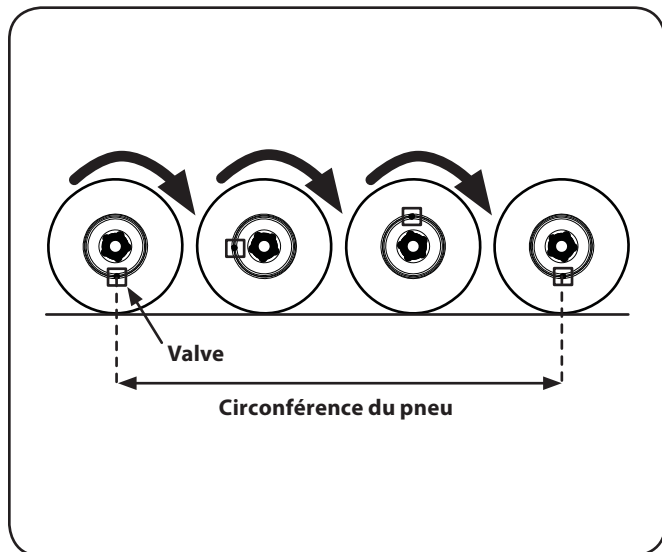

Figure 5-14
1. To measure the new tire circumference, mark the ground with the tire valve stem at the bottom. Roll the UV forward until the tire makes one full rotation and mark the ground again; measure the distance between the marks to get the tire circumference. See Figure 5-14.